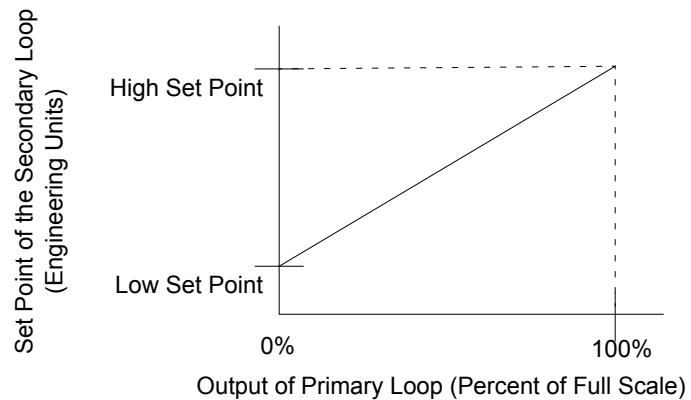

Figure 4.10 *Secondary Set Point When Primary Loop Has Heat Output Only*
- If the primary loop has only a heat output, then the set point of the secondary loop is equal to the *Cascade low SP* parameter when the heat output is at 0 percent, and is equal to the *Cascade high SP* parameter when the heat output is at 100 percent. See Figure 4.10.